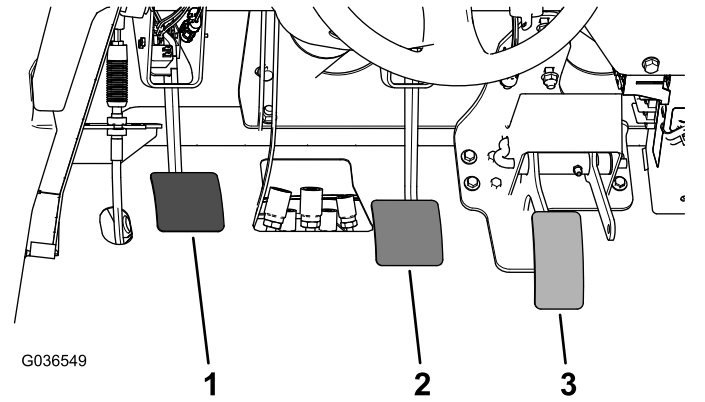

Figure 62
2. Lift up on the brake pedal (Figure 62) until it contacts the frame.
3. Loosen the jam nuts securing the yoke to the master cylinder shaft (Figure 62).